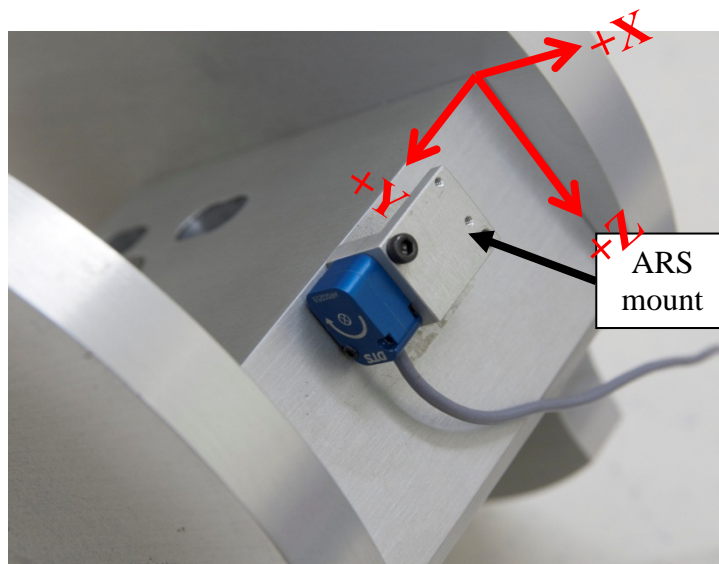
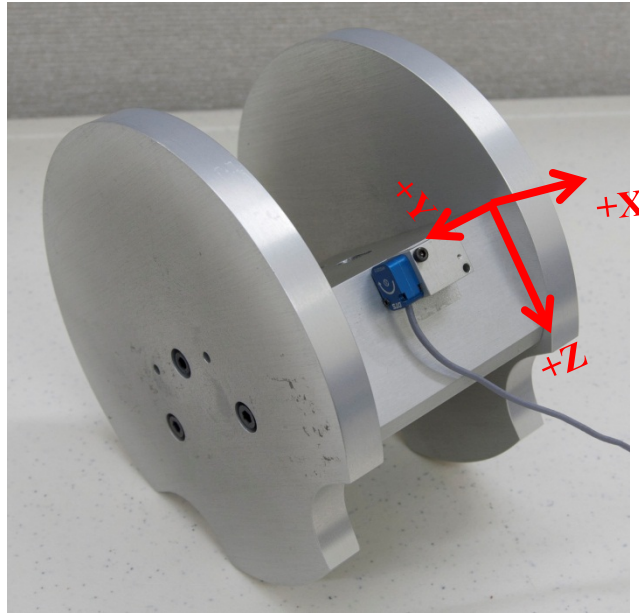

Figure 37. Install ARS mount to front of headform
Figure 38. ARS installed to measure rotational velocity about the headform Y axis
- Install the Angular Rate Sensor (ARS) to the ARS mount then install the mount to the front of the headform¹¹ so that it measures rotational velocity about the (headform) Y axis (Figure 37 and Figure 38).